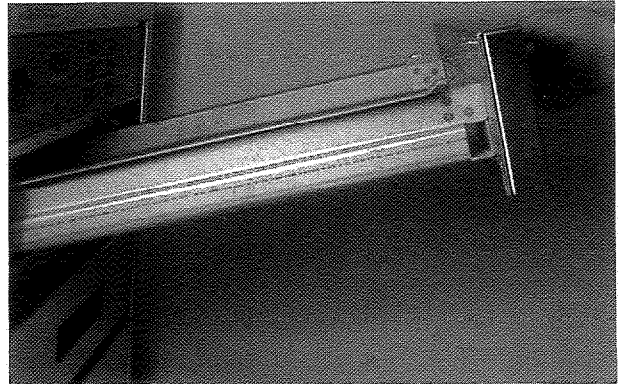

Figure 19
2. Remove the top drawer from unit. (See Figure 19)